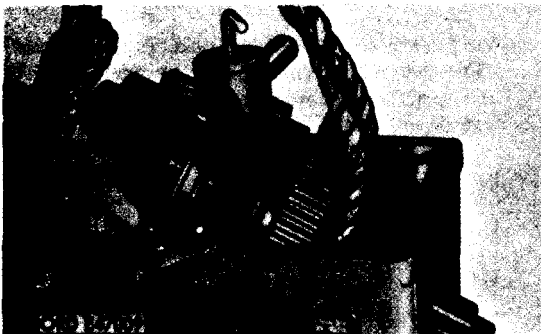

Figure 253. Lifting main shaft, with gears, from transmission case
- (e) Secure rope sling to front and rear end of main shaft assembly with gears (fig. 253) and lift the assembly from the transmission case.